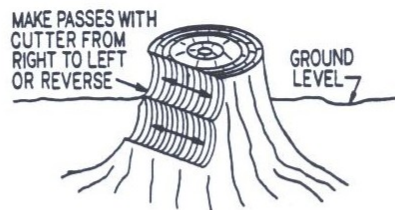

fig. 8
9. Start to cut the stump at the extreme left (rear position) or extreme right (front position). Swing the cutter head across the stump, cutting approximately 2" of wood at each pass. As you become more familiar with your machine, you will be able to cut left to right and right to left. The hardness of the wood and the sharpness of the teeth will dictate how deep and how fast you cut. See figure 8.